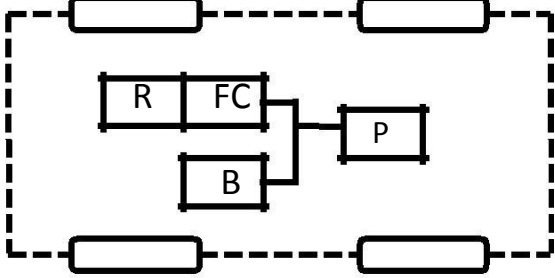

Figure 4d: EV configuration with multiple energy sources [1]
- **Configuration 4:** Rather than storing it as a compressed gas, a liquid or a metal hydride, hydrogen can be generated on-board using liquid fuels such as methanol, **Figure 4d**. In this case a mini reformer is installed in the EV to produce necessary hydrogen gas for the fuel cell.